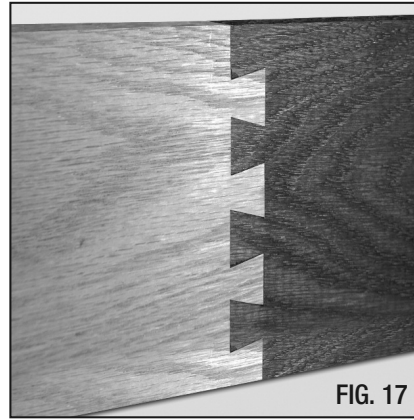

FIG. 17
1. When cutting an edge joint, the round-over created by the dovetail jig must be eliminated in order to join the two pieces of wood using a Dovetail-Joint. (FIG. 17)